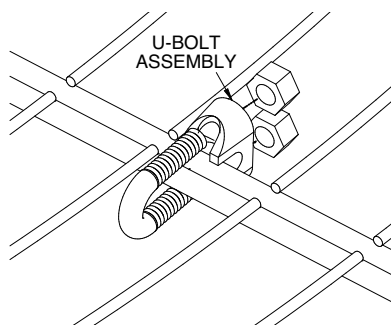
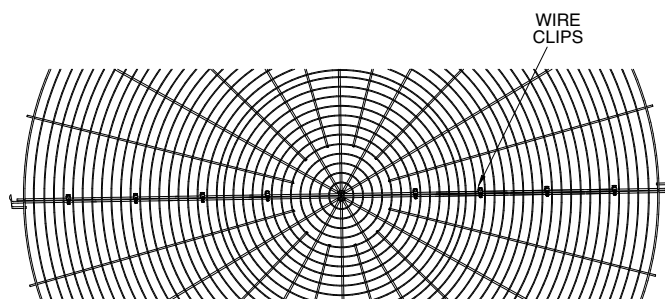

Figure 9 – Wire Clip Arrangement
Figure 10 – Wire Clip Spacing
1. Lay both halves of the fan screen on the ground. Join the two screen halves with wire clips (Figure 9). There should be 4 wire clips on each side of the fan screen for 14' wide units. Space the wire clips evenly across the radius of the fan screen as shown in Figure 10.